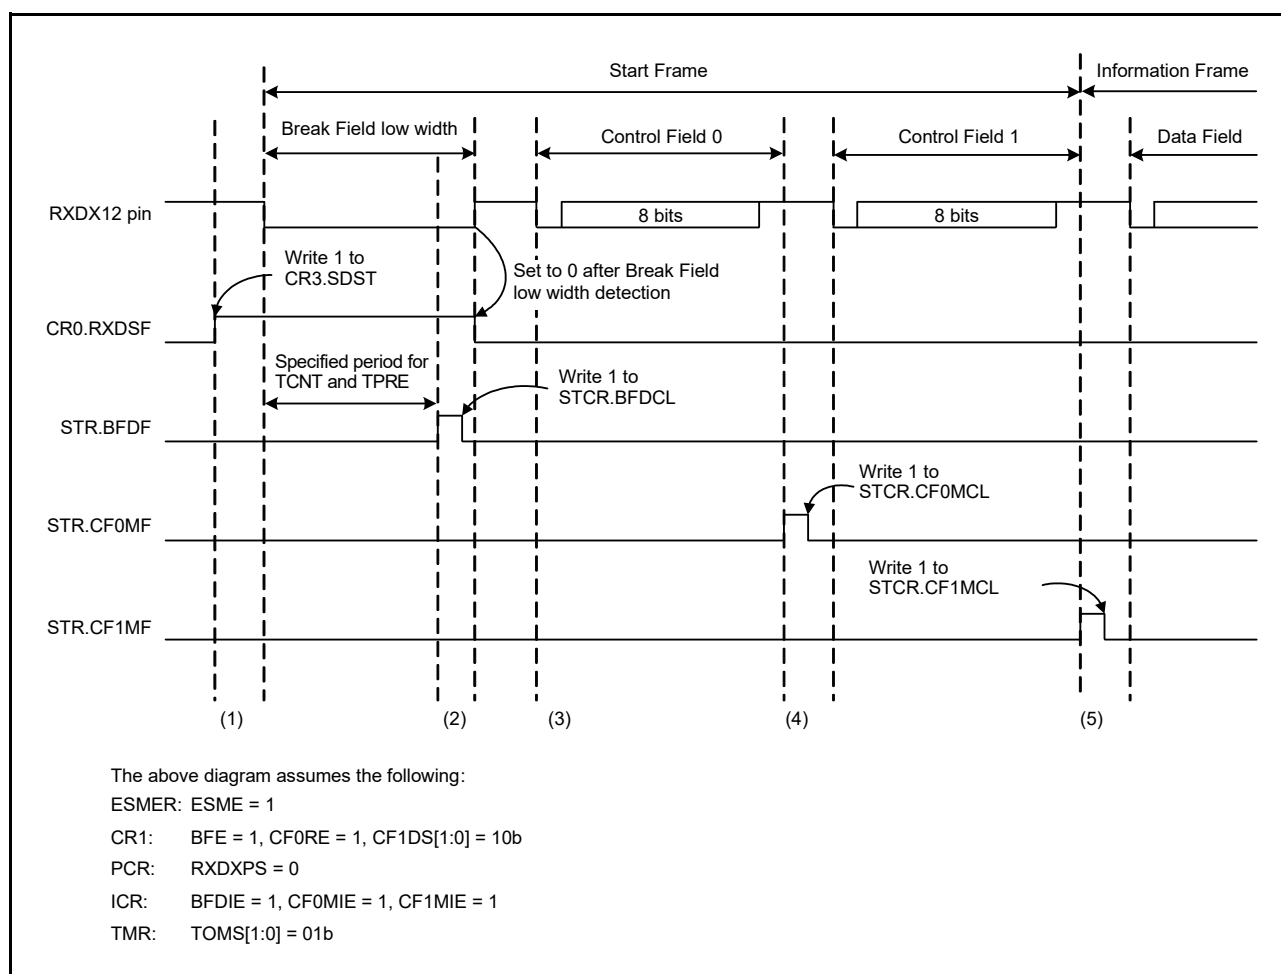
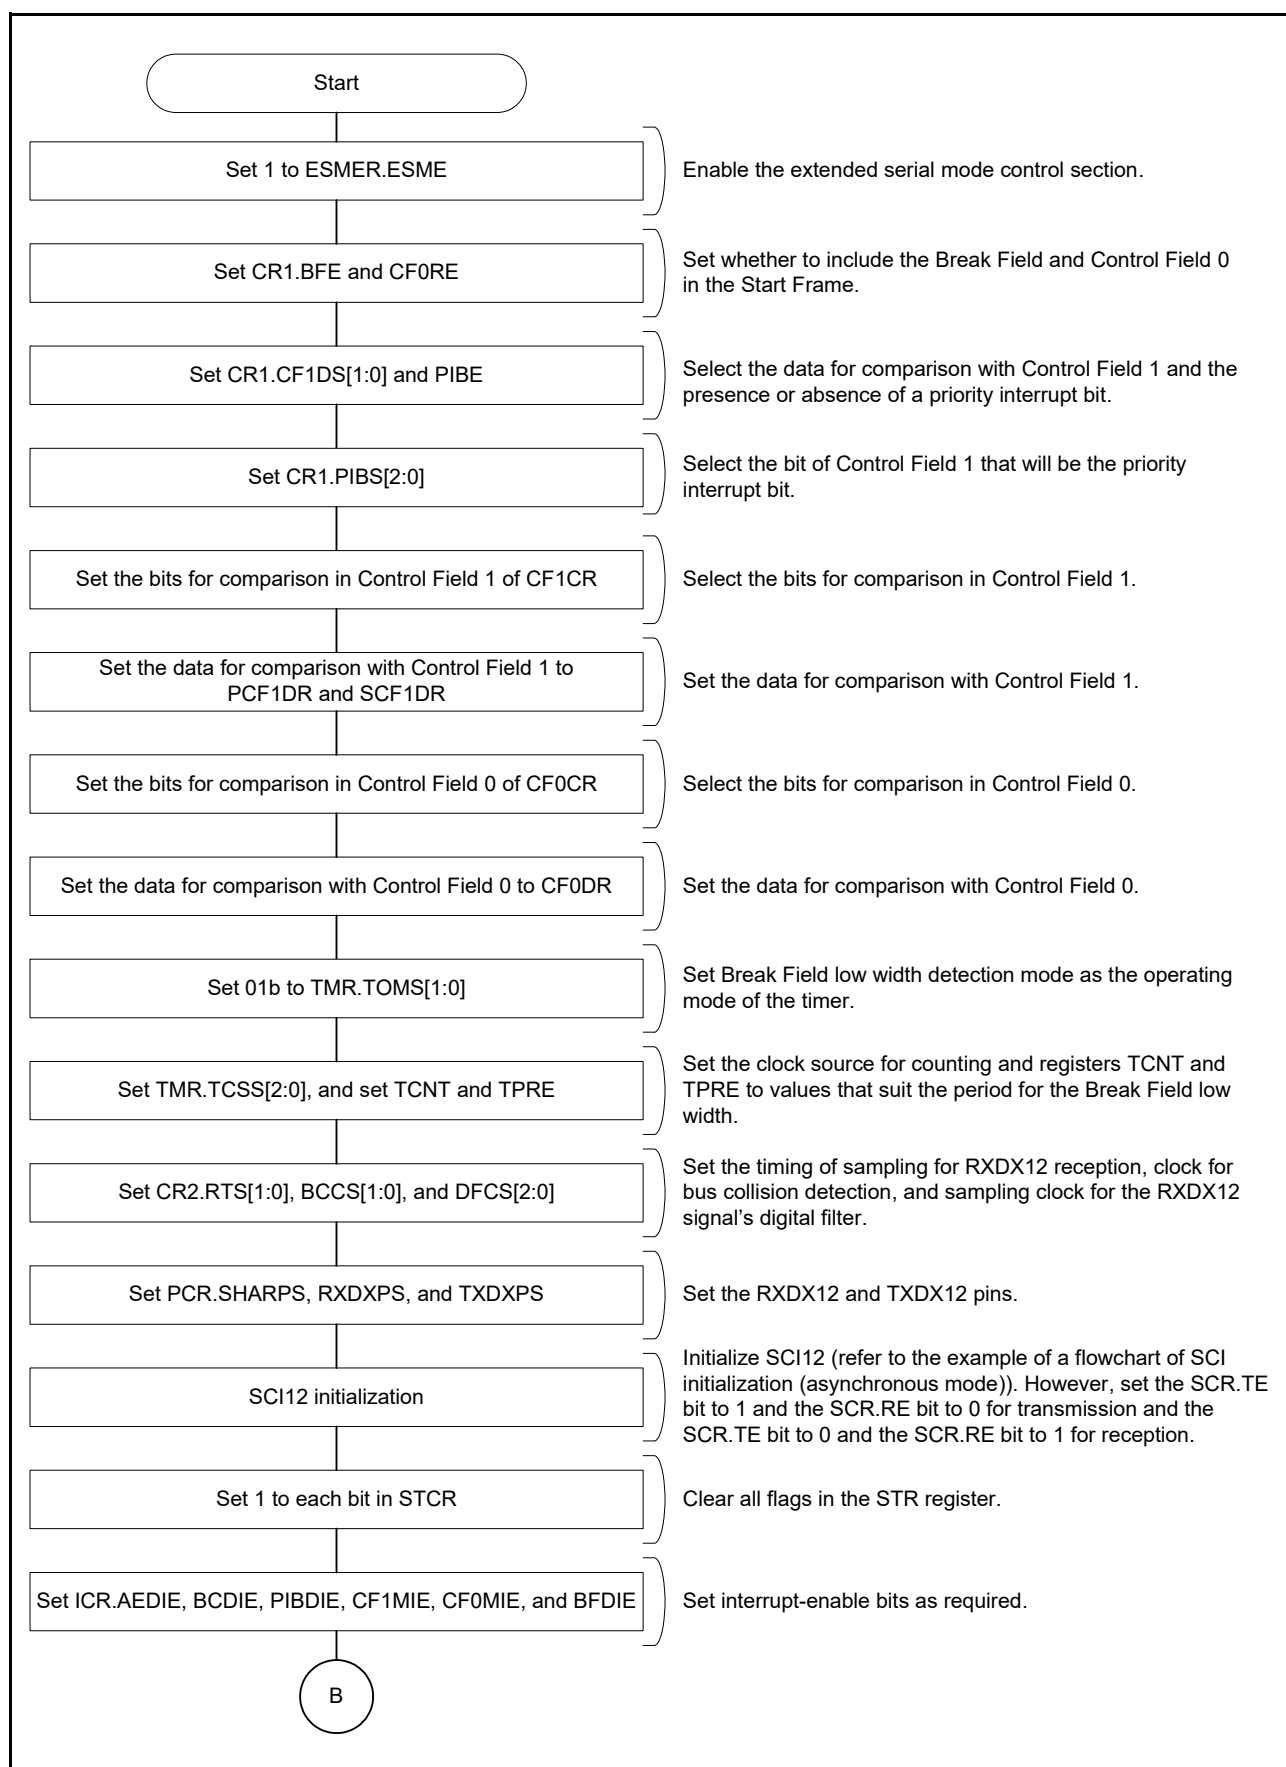
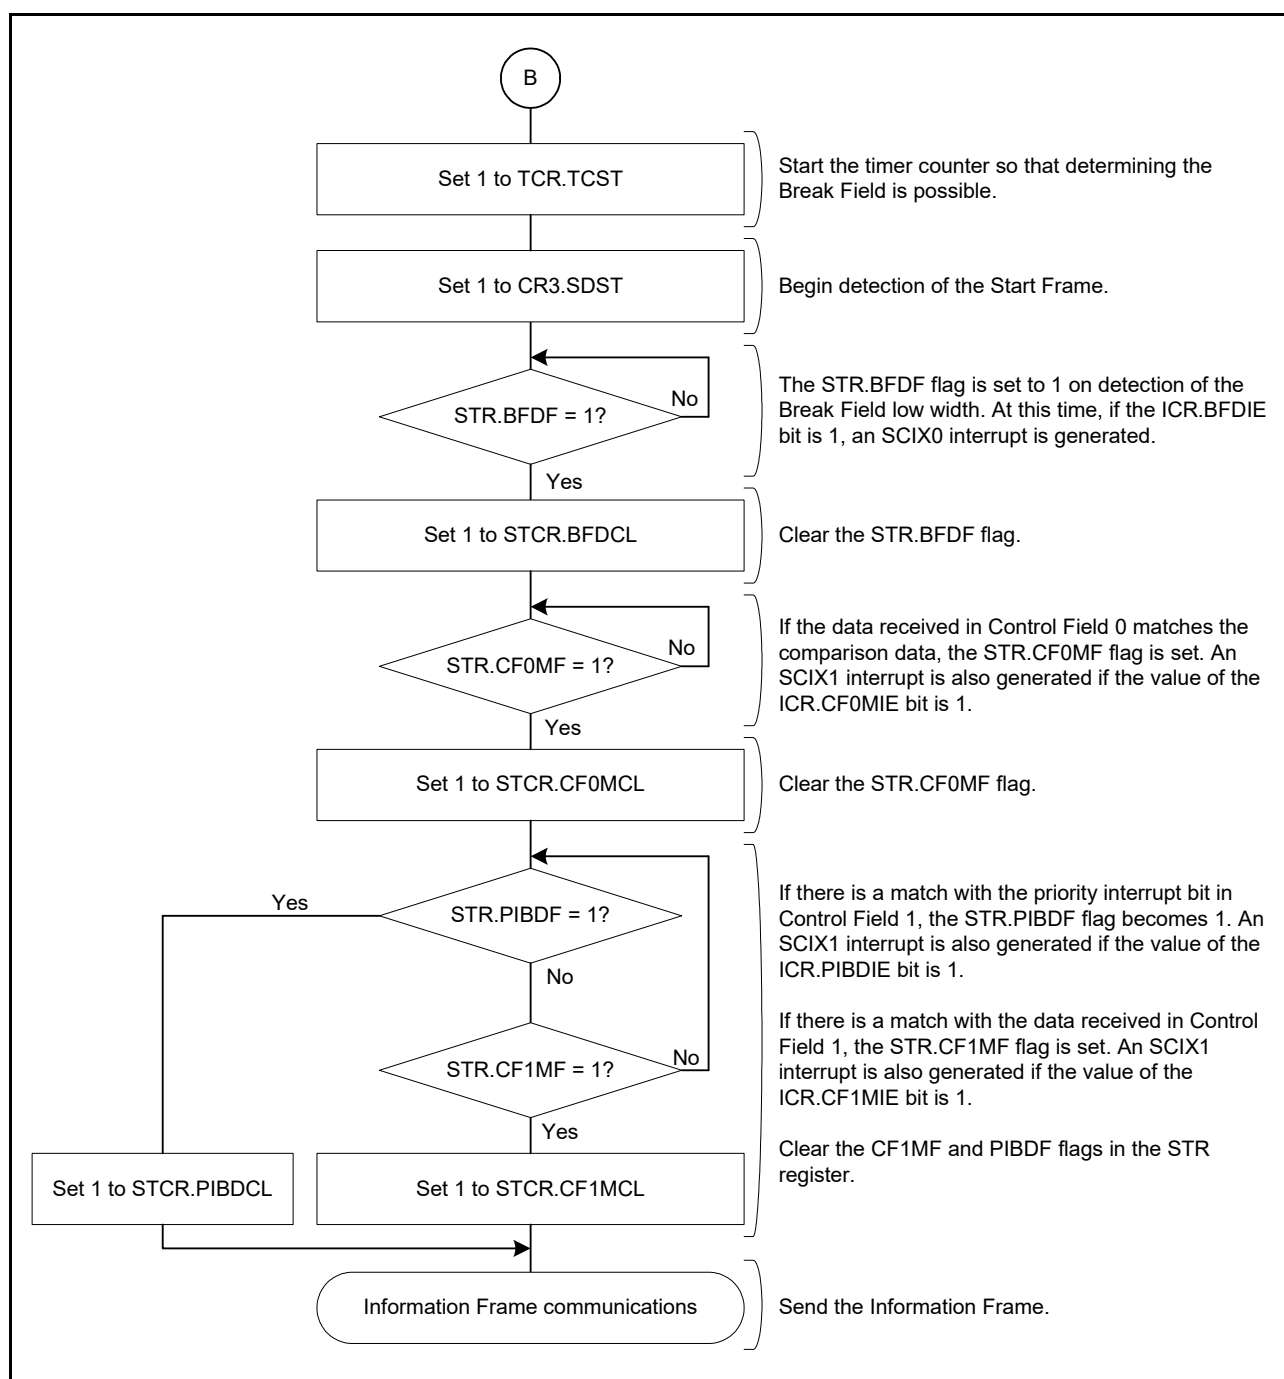
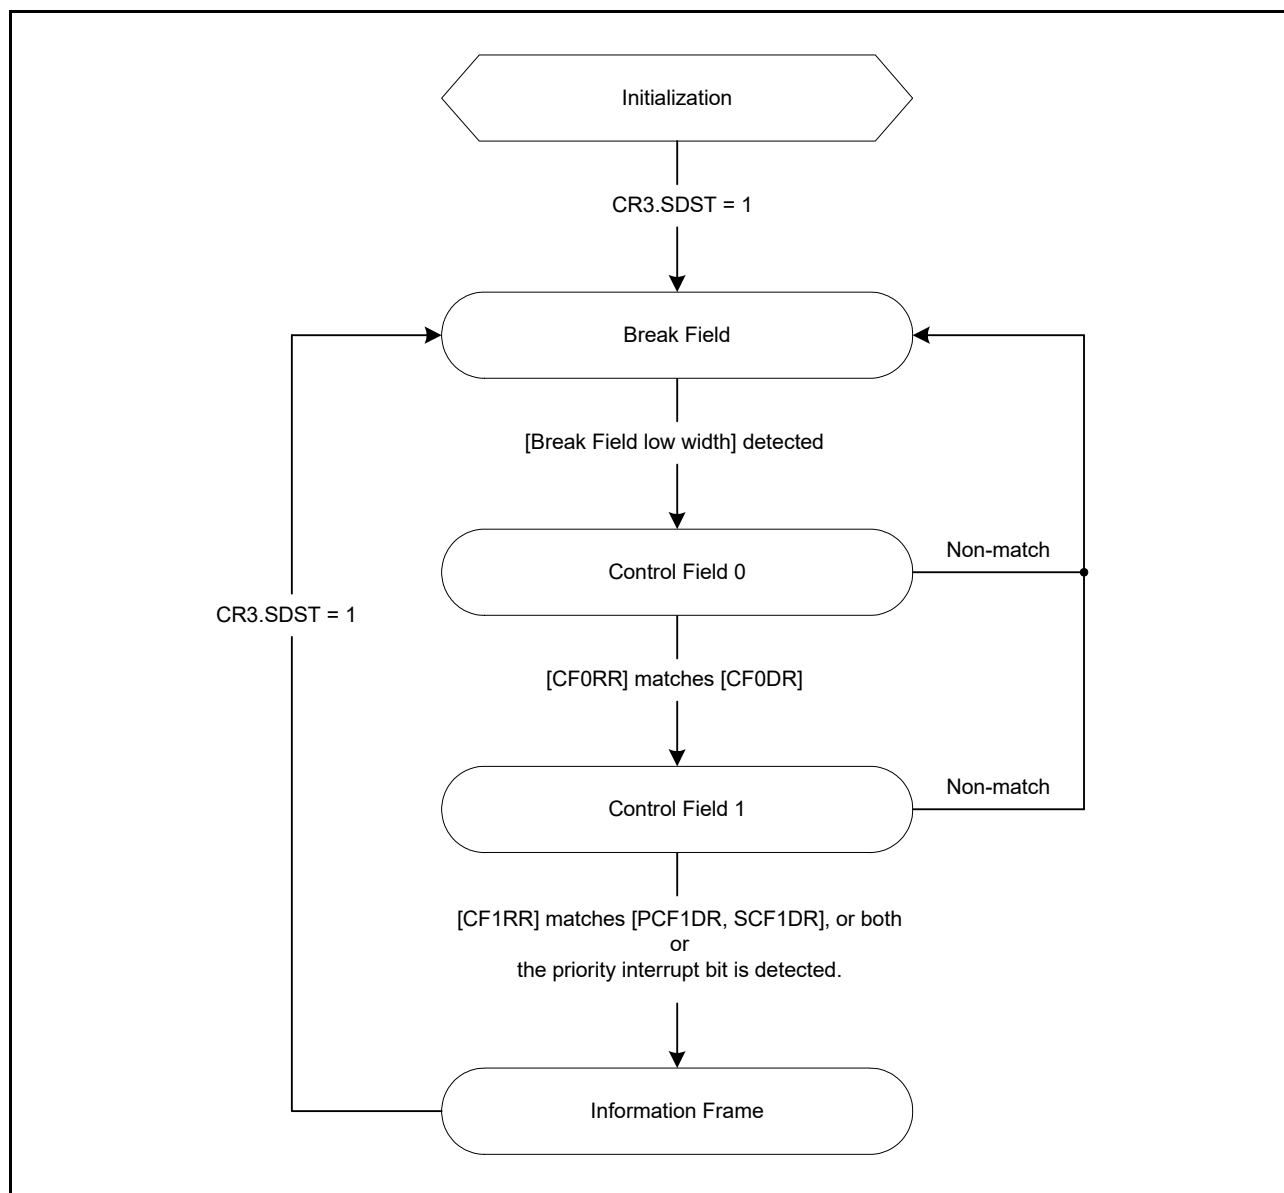

**Figure 23.63** Example of Operations at the Time of Start Frame Reception
Figure 23.64 Sample Flowchart for Reception of a Start Frame (1)
Figure 23.65 Sample Flowchart for Reception of a Start Frame (2)
**Figure 23.66** State Transitions When Receiving a Start Frame
Figure 23.63 shows an example of operations to receive a Start Frame, which is composed of the Break Field low width, Control Field 0, and Control Field 1. Figure 23.64 and Figure 23.65 are flowcharts for the reception of a Start Frame, and Figure 23.66 is a state transition diagram when receiving a Start Frame.
Steps (1) to (4) are the same as in Figure 23.63, for Start Frame reception.
- (5) If the value of the bit selected by the CR1.PIBS[2:0] bits matches the corresponding bit in the PCF1DR register, the STR.PIBDF flag is set to 1. An SCIX1 interrupt is also generated if the value of the ICR.PIBDIE bit is 1. Transfer of the Information Frame starts after that. If the data received in Control Field 1 do not match the data set in either or both of registers PCF1DR and SCF1DR and the priority interrupt bit is not detected, a transition to the state prior to Break Field low width detection proceeds.